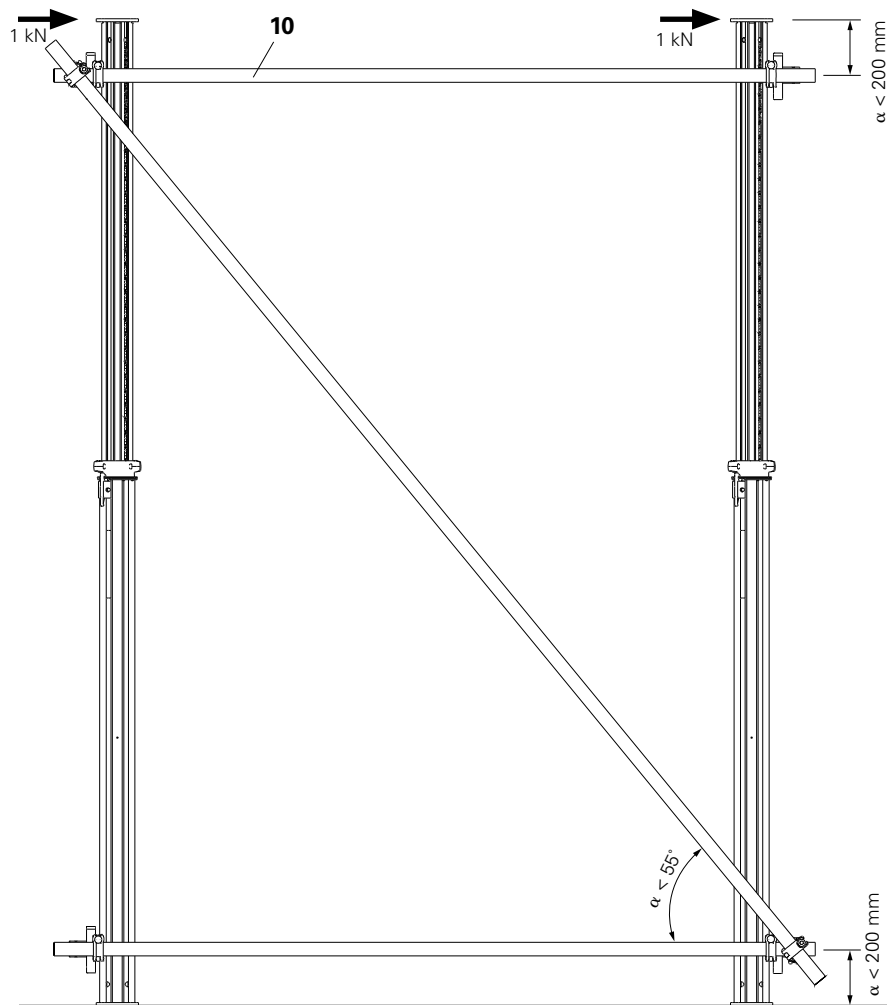

Fig. B1.01
Horizontal scaffold tube bracing may be used as an assembly aid. They consist of Scaffold Tubes \varnothing 48 mm (10) and MULTIPROP Scaffold Tube Couplers MG-A / C or MG-B / D (15). The bracing is installed in segments and towers, and is designed to stabilise the MP Props. (Fig. B1.01)